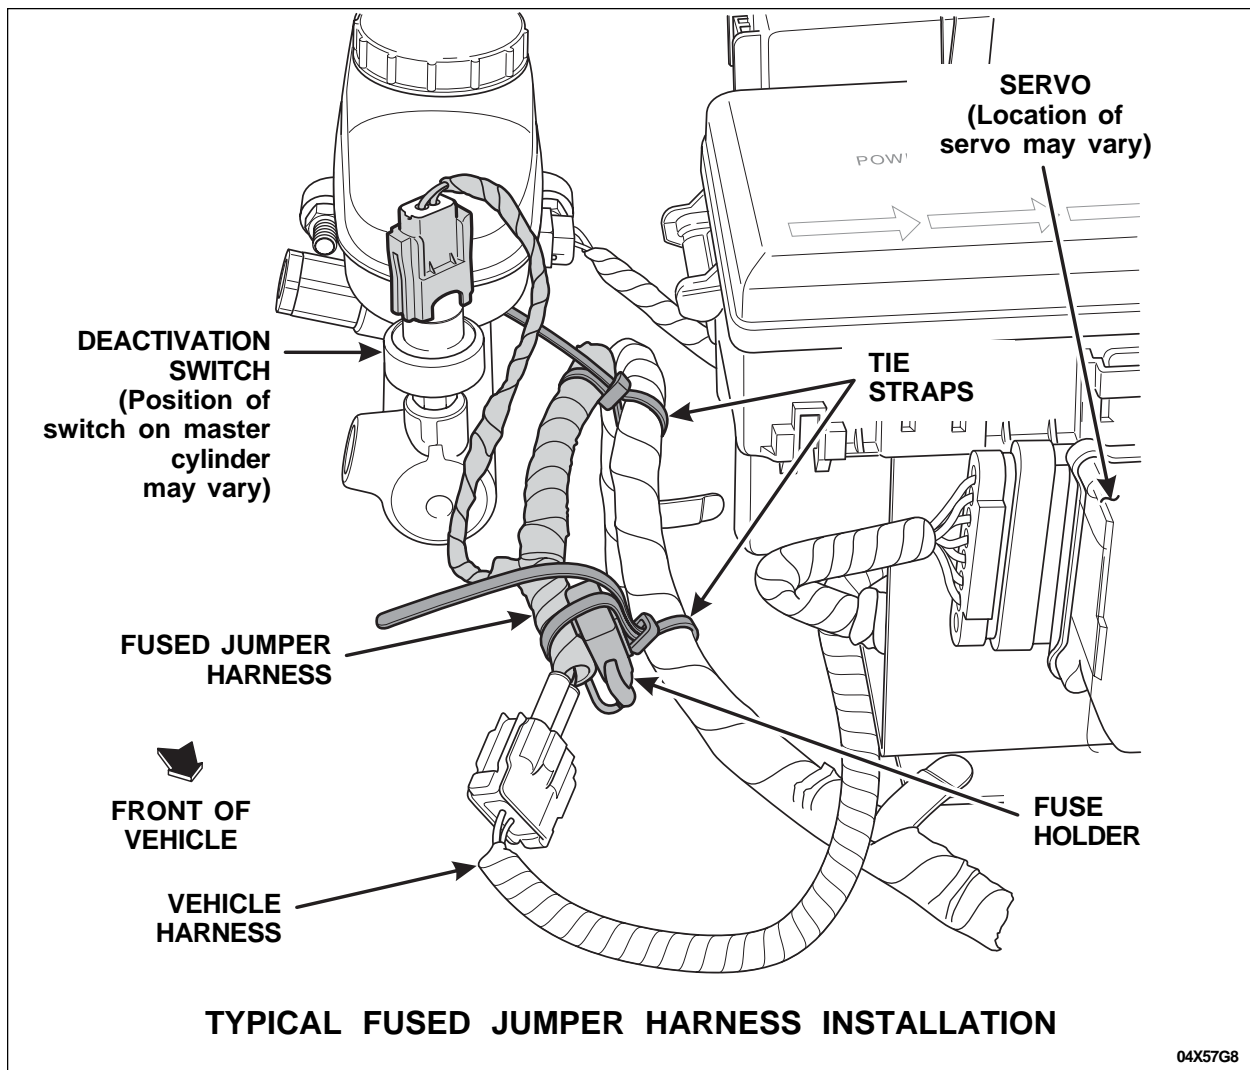

FIGURE 1
3. Secure the jumper harness to the existing harness with tie straps, making sure the fuse holder is positioned vertically with the cap facing upward. Wrap the tie straps underneath, then over the top of the existing harness and verify proper fuse holder orientation. See Figure 1.